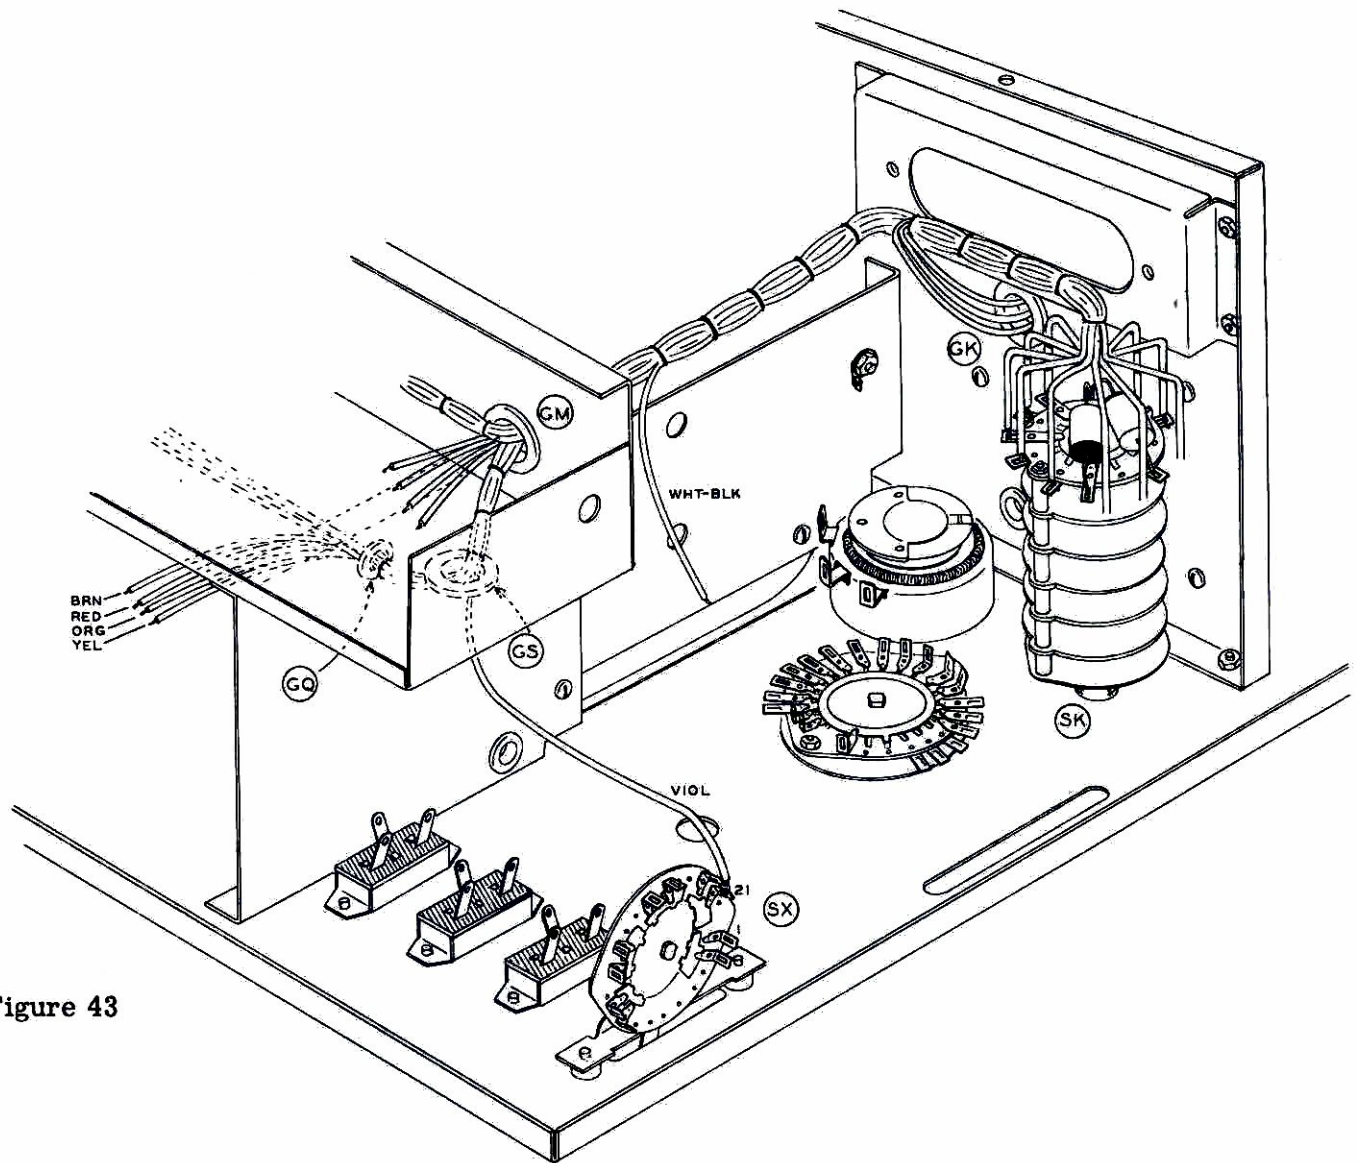

Figure 43
- () When the switch has been securely mounted, bend the cable harness above the switch at right angles so that it will assume the position shown in Figure 43. The white-black lead which breaks out of the harness above hole SN will be connected later to the LEAK-AGE switch.